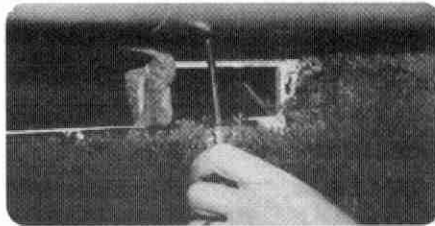

Figure 26
32. Remove lower left glovebox screw (Figure 26). This screw will be used to hold the right side attaching tab on the duct assembly.